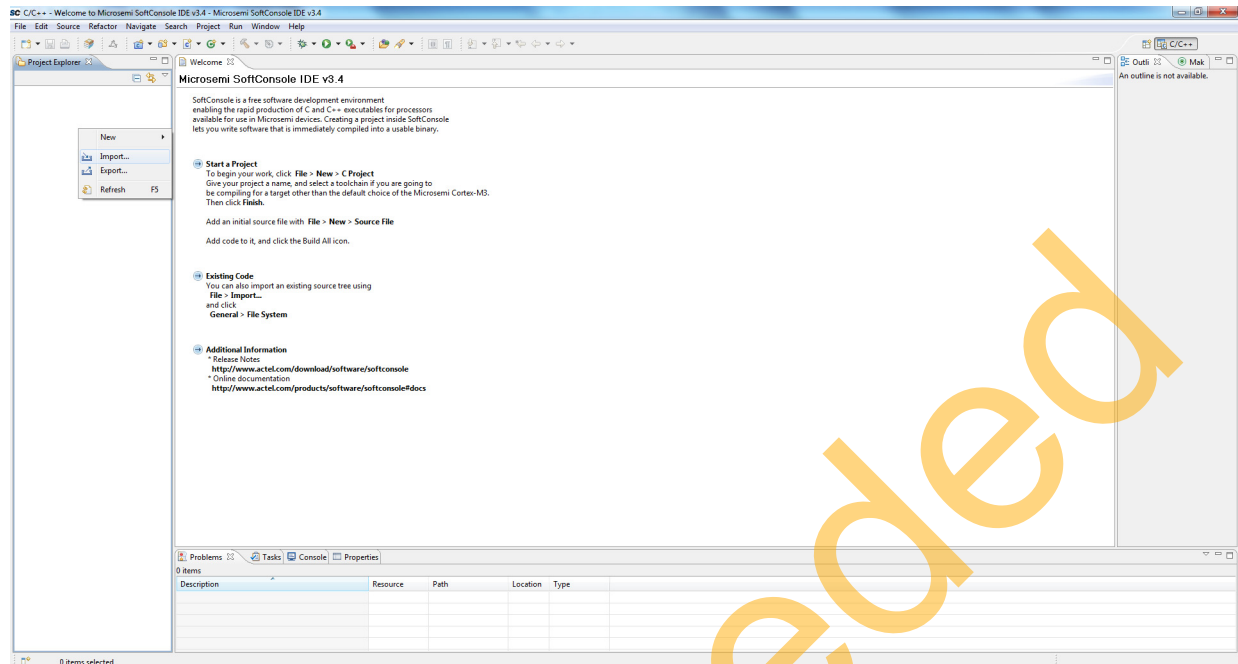

Figure 30 • SoftConsole IDE - Import
2. Right-click the **Project Explorer** window and choose **Import** as shown in Figure 30.